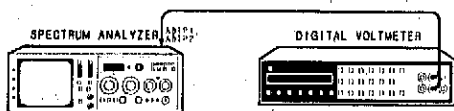

Figure 5-1. Low-Voltage Power Supplies Adjustment Test Setup
1. Set display LINE switch to OFF, disconnect ac power cord, and remove the HP 853A top cover. Connect the equipment as shown in Figure 5-1.